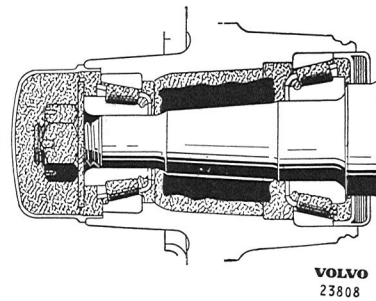

Fig. 7-25. Front wheel bearing lubrication
8. Grease the bearing with a grease press. If a grease press is not available, pack the bearings by hand with as much thick grease as there is room for between the roller retainer and the bearing inner race. Also apply grease to the outer sides of the bearings and on the outer races pressed into the hub. The recess in the hub is filled with grease all round up to the smallest diameter of the outer race of the outer bearings, see Fig. 7-25.